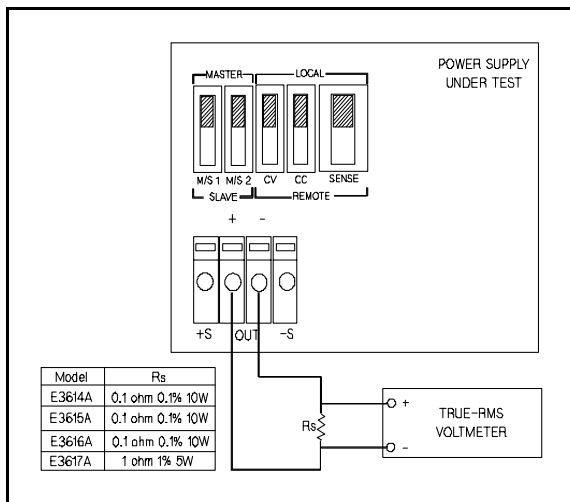

Figure A-8. CC PARD RMS Measurement Test Setup
- Connect the test equipment as shown in Figure A-8.